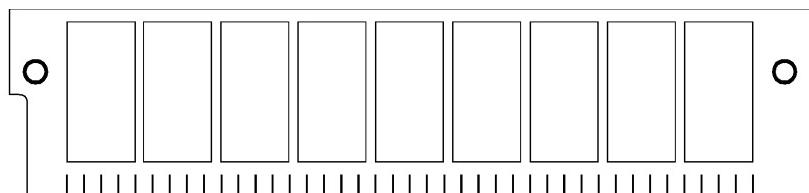

Figure 1 - SIMM
The RAM in the PC RIP-10 consists of four (4) - 1 Megabyte by 8 (or 9) Single-Inline-Memory-Modules (SIMMs) running at 70 nanoseconds. A SIMM consists of a very small (appr. 3/4" inch by 3 1/2" inches) printed circuit board (PCB) with 30 contact fingers which plug into sockets on the main board of the PC RIP-10. Dynamic RAM memory chips which are soldered on to this small PCB can communicate with each other through the wiring in the board and with the main board through the 30 contact fingers. The actual physical number of DRAM chips installed on the SIMM can be either 2 or 8 for 1 Mb x 8 (3 or 9 for 1 Mb x 9) depending on the density of the chips. (See Figure 1.)